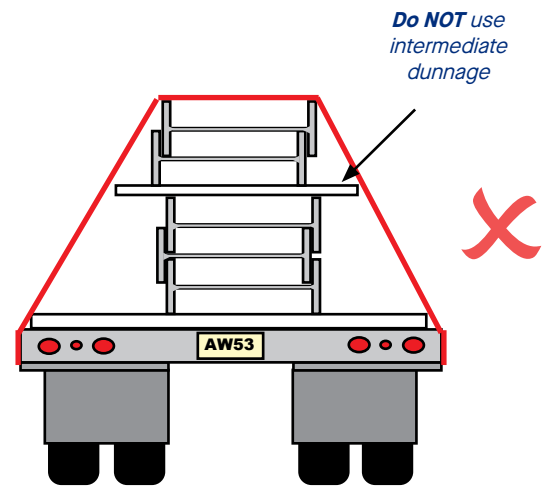

Fig 2.1 **Do NOT** use intermediate dunnage in the stack. Point loading at the flange ends may cause the dunnage to break.
- ✗ **Do NOT** use intermediate dunnage (see Fig 2.1).